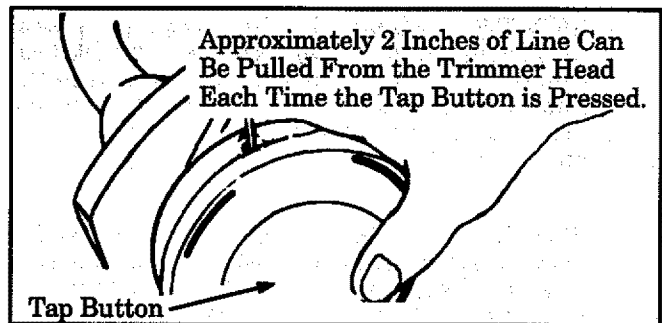

Figure 19
- i. Obtain the correct line length (4–6 inches) by pressing the tap button (**Figure 19**) and pulling on the line again.
NOTE: Each time the tap button is pressed, approximately 2 inches of line can be pulled from the trimmer head. **Figure 19**.